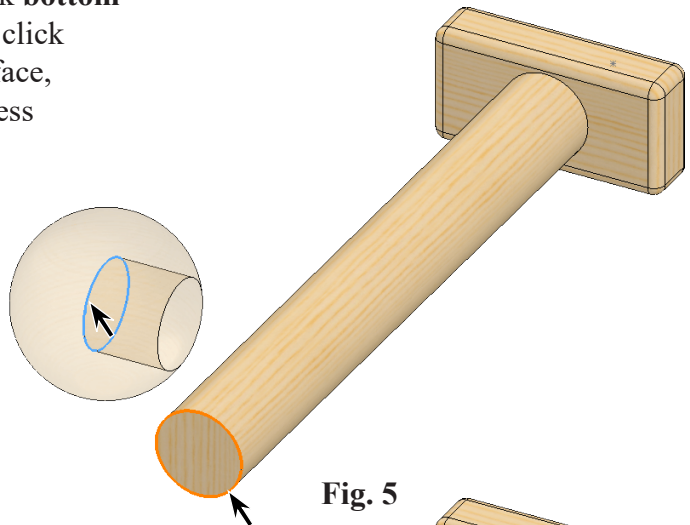

Fig. 5
Step 2. **Hide the spherical face of Knob**, click **bottom cylindrical edge of hole in Knob** and click **front cylindrical edge Rod**. To hide face, hover cursor over face of Knob and press **Alt key**, **Fig. 5**.